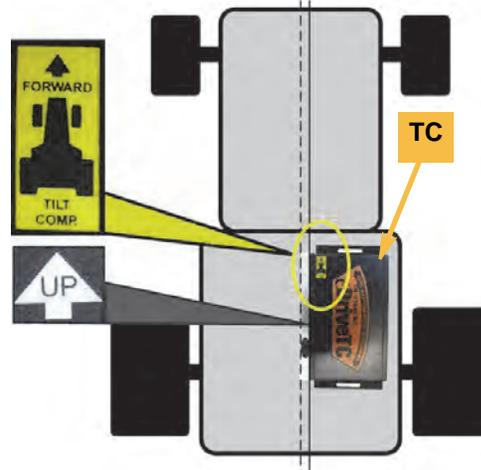

Figure 1a: ECU mounting location
- a. Through its end flanges, install the ECU **TC** on a level surface in the machine's cab. The unit must be 'UP' (see label), parallel to the fore/aft centerline of the machine, and pointing forward as indicated by the yellow label (Figure 1a). (The power switch and cable connectors will be inward with the unit installed on the right side of the cab.)